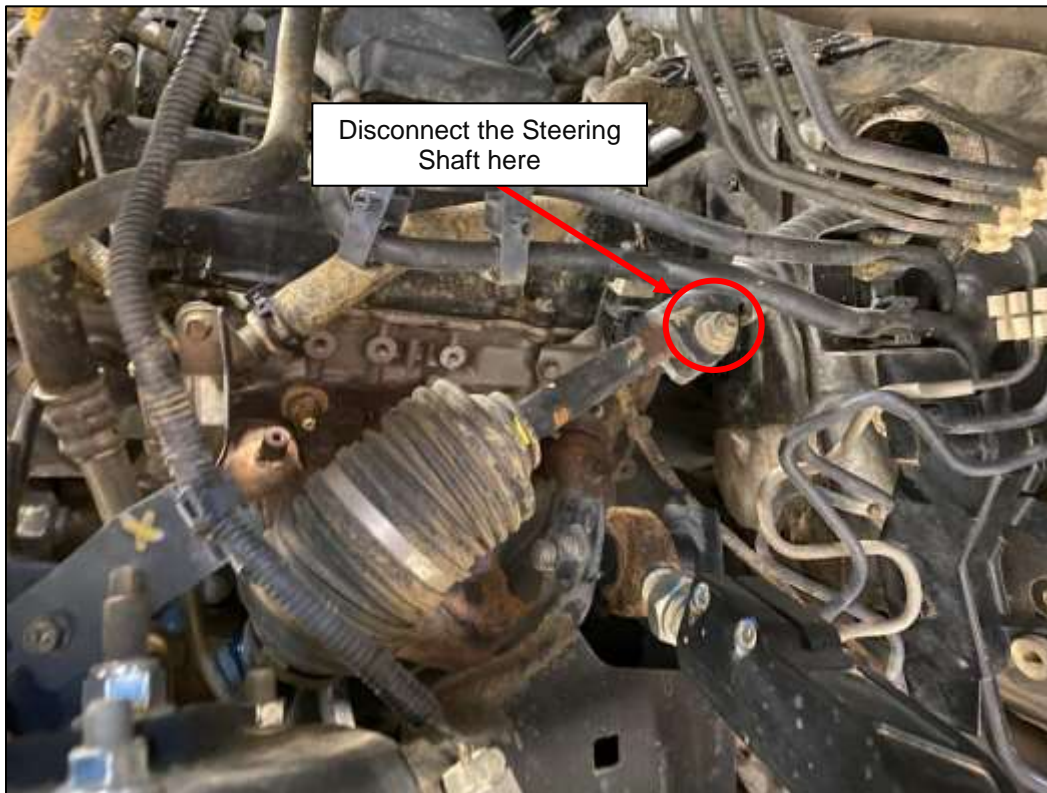

Figure 11
16. Mark the Steering Shaft using a paint pen, then disconnect the Steering Shaft. This will ensure proper alignment on reinstallation and prevent binding when the Body is lifted. *Figure 11.*